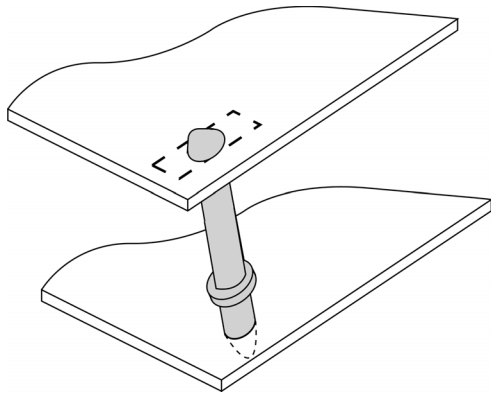

Figure 3: SB-593 Board Installation
Perform the following steps to install an SB-593 Satellite board on a PXL-250 or PXL-500/PXL-510 controller (see Figure 3).
3. Line up the stand-offs in the top two corners of the Satellite PCB with corresponding mounting holes in the controller PCB (see Figure 3).